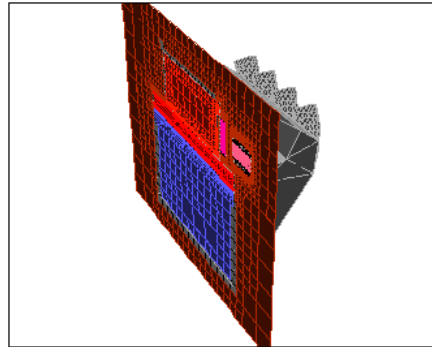

Figure 8.5.1: Overlaid Geometry Clipped with the Pan Plane
4. Enable **Overlay Graphics** if you want to see the geometry along with the pan plane. Select **Positive** or **Negative** to clip the surfaces on the positive or negative side of the cutting plane. Figure 8.5.1 shows the geometry on the positive side of the cutting plane.